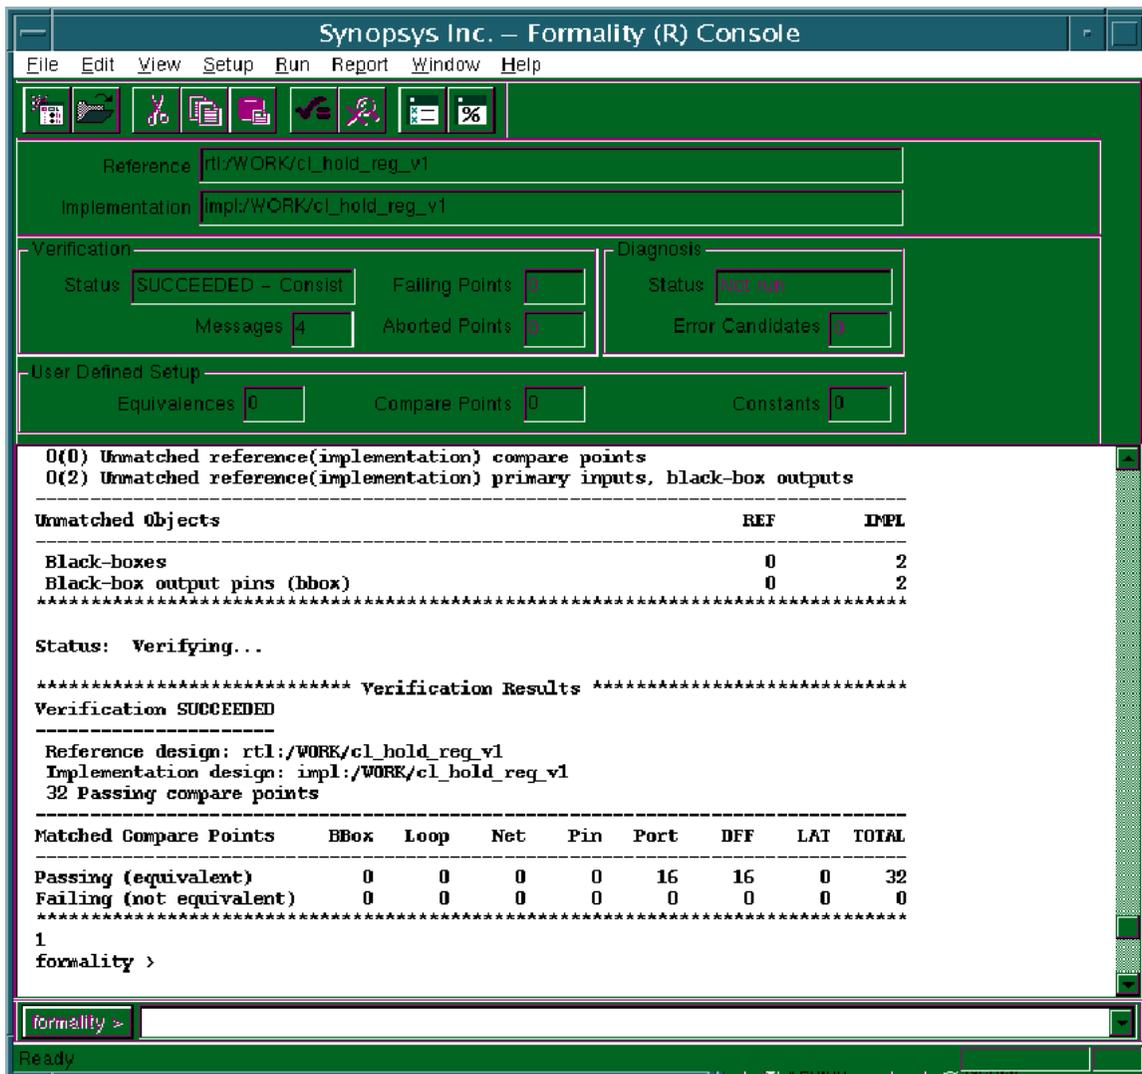

Figure 5: Formality Transcript Showing Results of Verification
21. From the Formality Console window, click Run -> Verify -> All Compare Points. If the designs compare successfully, the result is shown in the GUI under the "Verification" section, as shown in **Figure 5**.